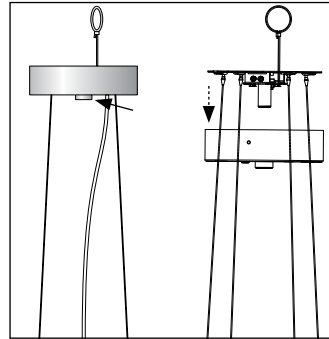

Figure 1: Canopy Cover Removal
2. Loosen fixing nut of the canopy and remove mounting plate from canopy. [Figure 1]